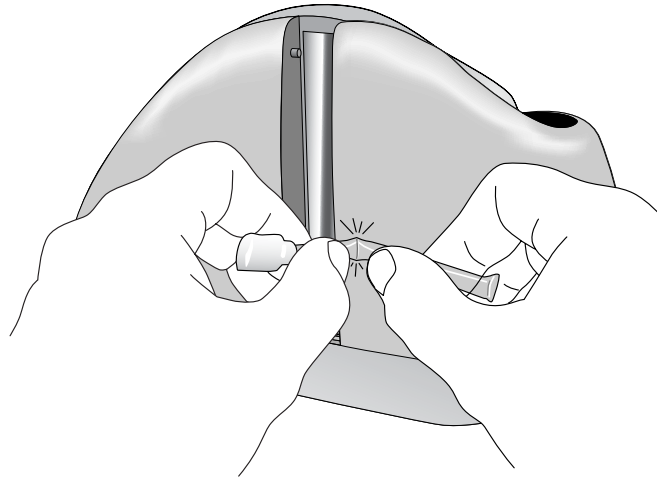

Figure 3-5. Activating the Cleaning Swab
3. To clean the Imager, use the cleaning swab, shown in Figure 3-5. Activate the swab by bending the plastic tube until you hear a snap.